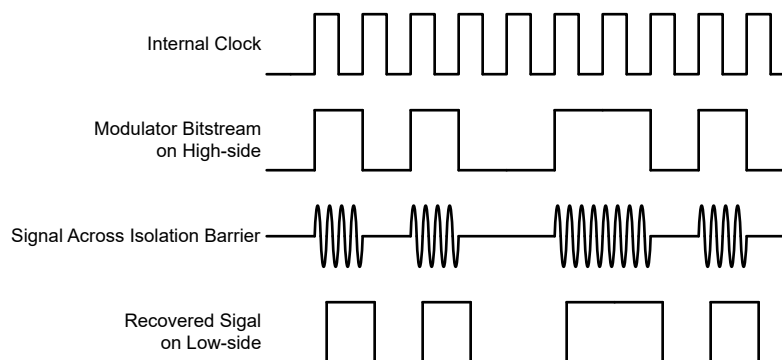

Figure 7-1. OOK-Based Modulation Scheme
The AMC0x11D uses an on-off keying (OOK) modulation scheme, as shown in Figure 7-1, to transmit the modulator output bitstream across the SiO₂-based isolation barrier. The transmit driver (TX) as illustrated in the Functional Block Diagram transmits an internally generated, high-frequency carrier across the isolation barrier to represent a digital *one*. However, TX does not send a signal to represent a digital *zero*. The nominal frequency of the carrier used inside the AMC0x11D is 480MHz.